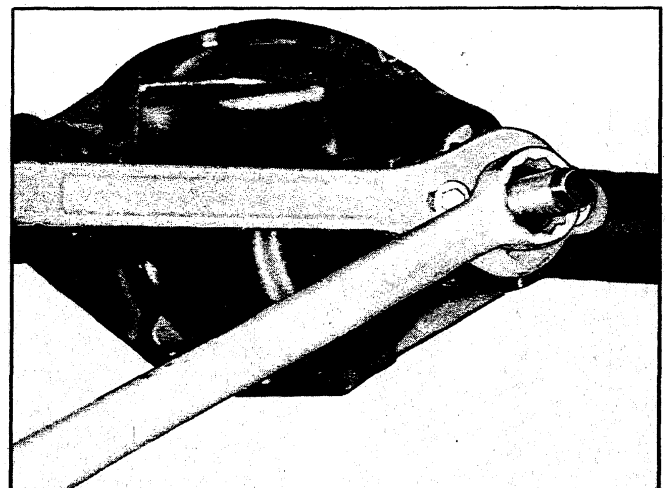

Fig. 87—Drive Pinion Flange Installation
11. Position and align pinion flange on pinion shaft using Tools J-9458 and J-8614-1. Tool J-9458-1 is threaded onto pinion shaft and nut tightened against J-9458-2 to pull flange on shaft (fig. 87). Remove